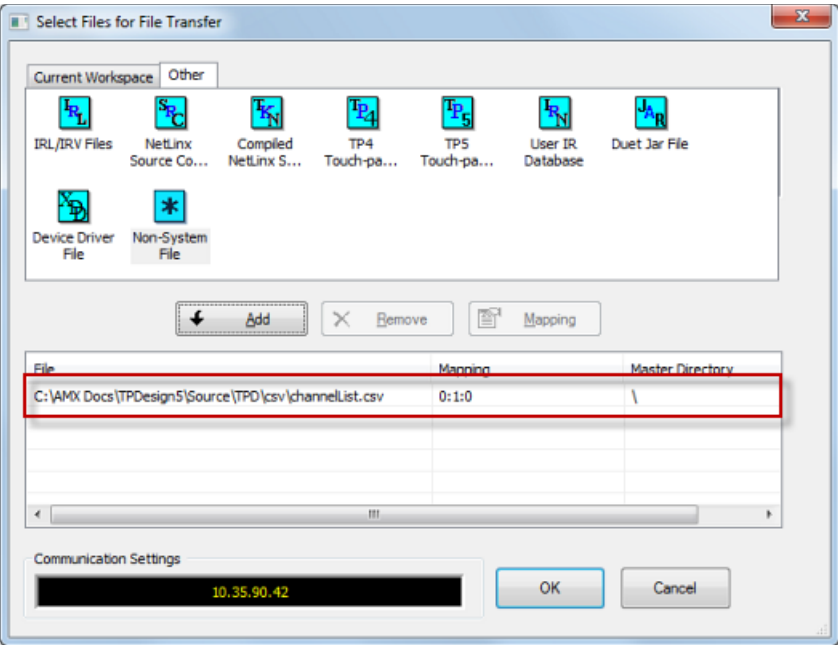

FIG. 124 NetLinX Studio5 - Select Files for File Transfer dialog indicating a CSV file for transfer
- 9. In the *Select Files For File Transfer* dialog, the selected file and it's device information are indicated in the *Files* list (FIG. 124):